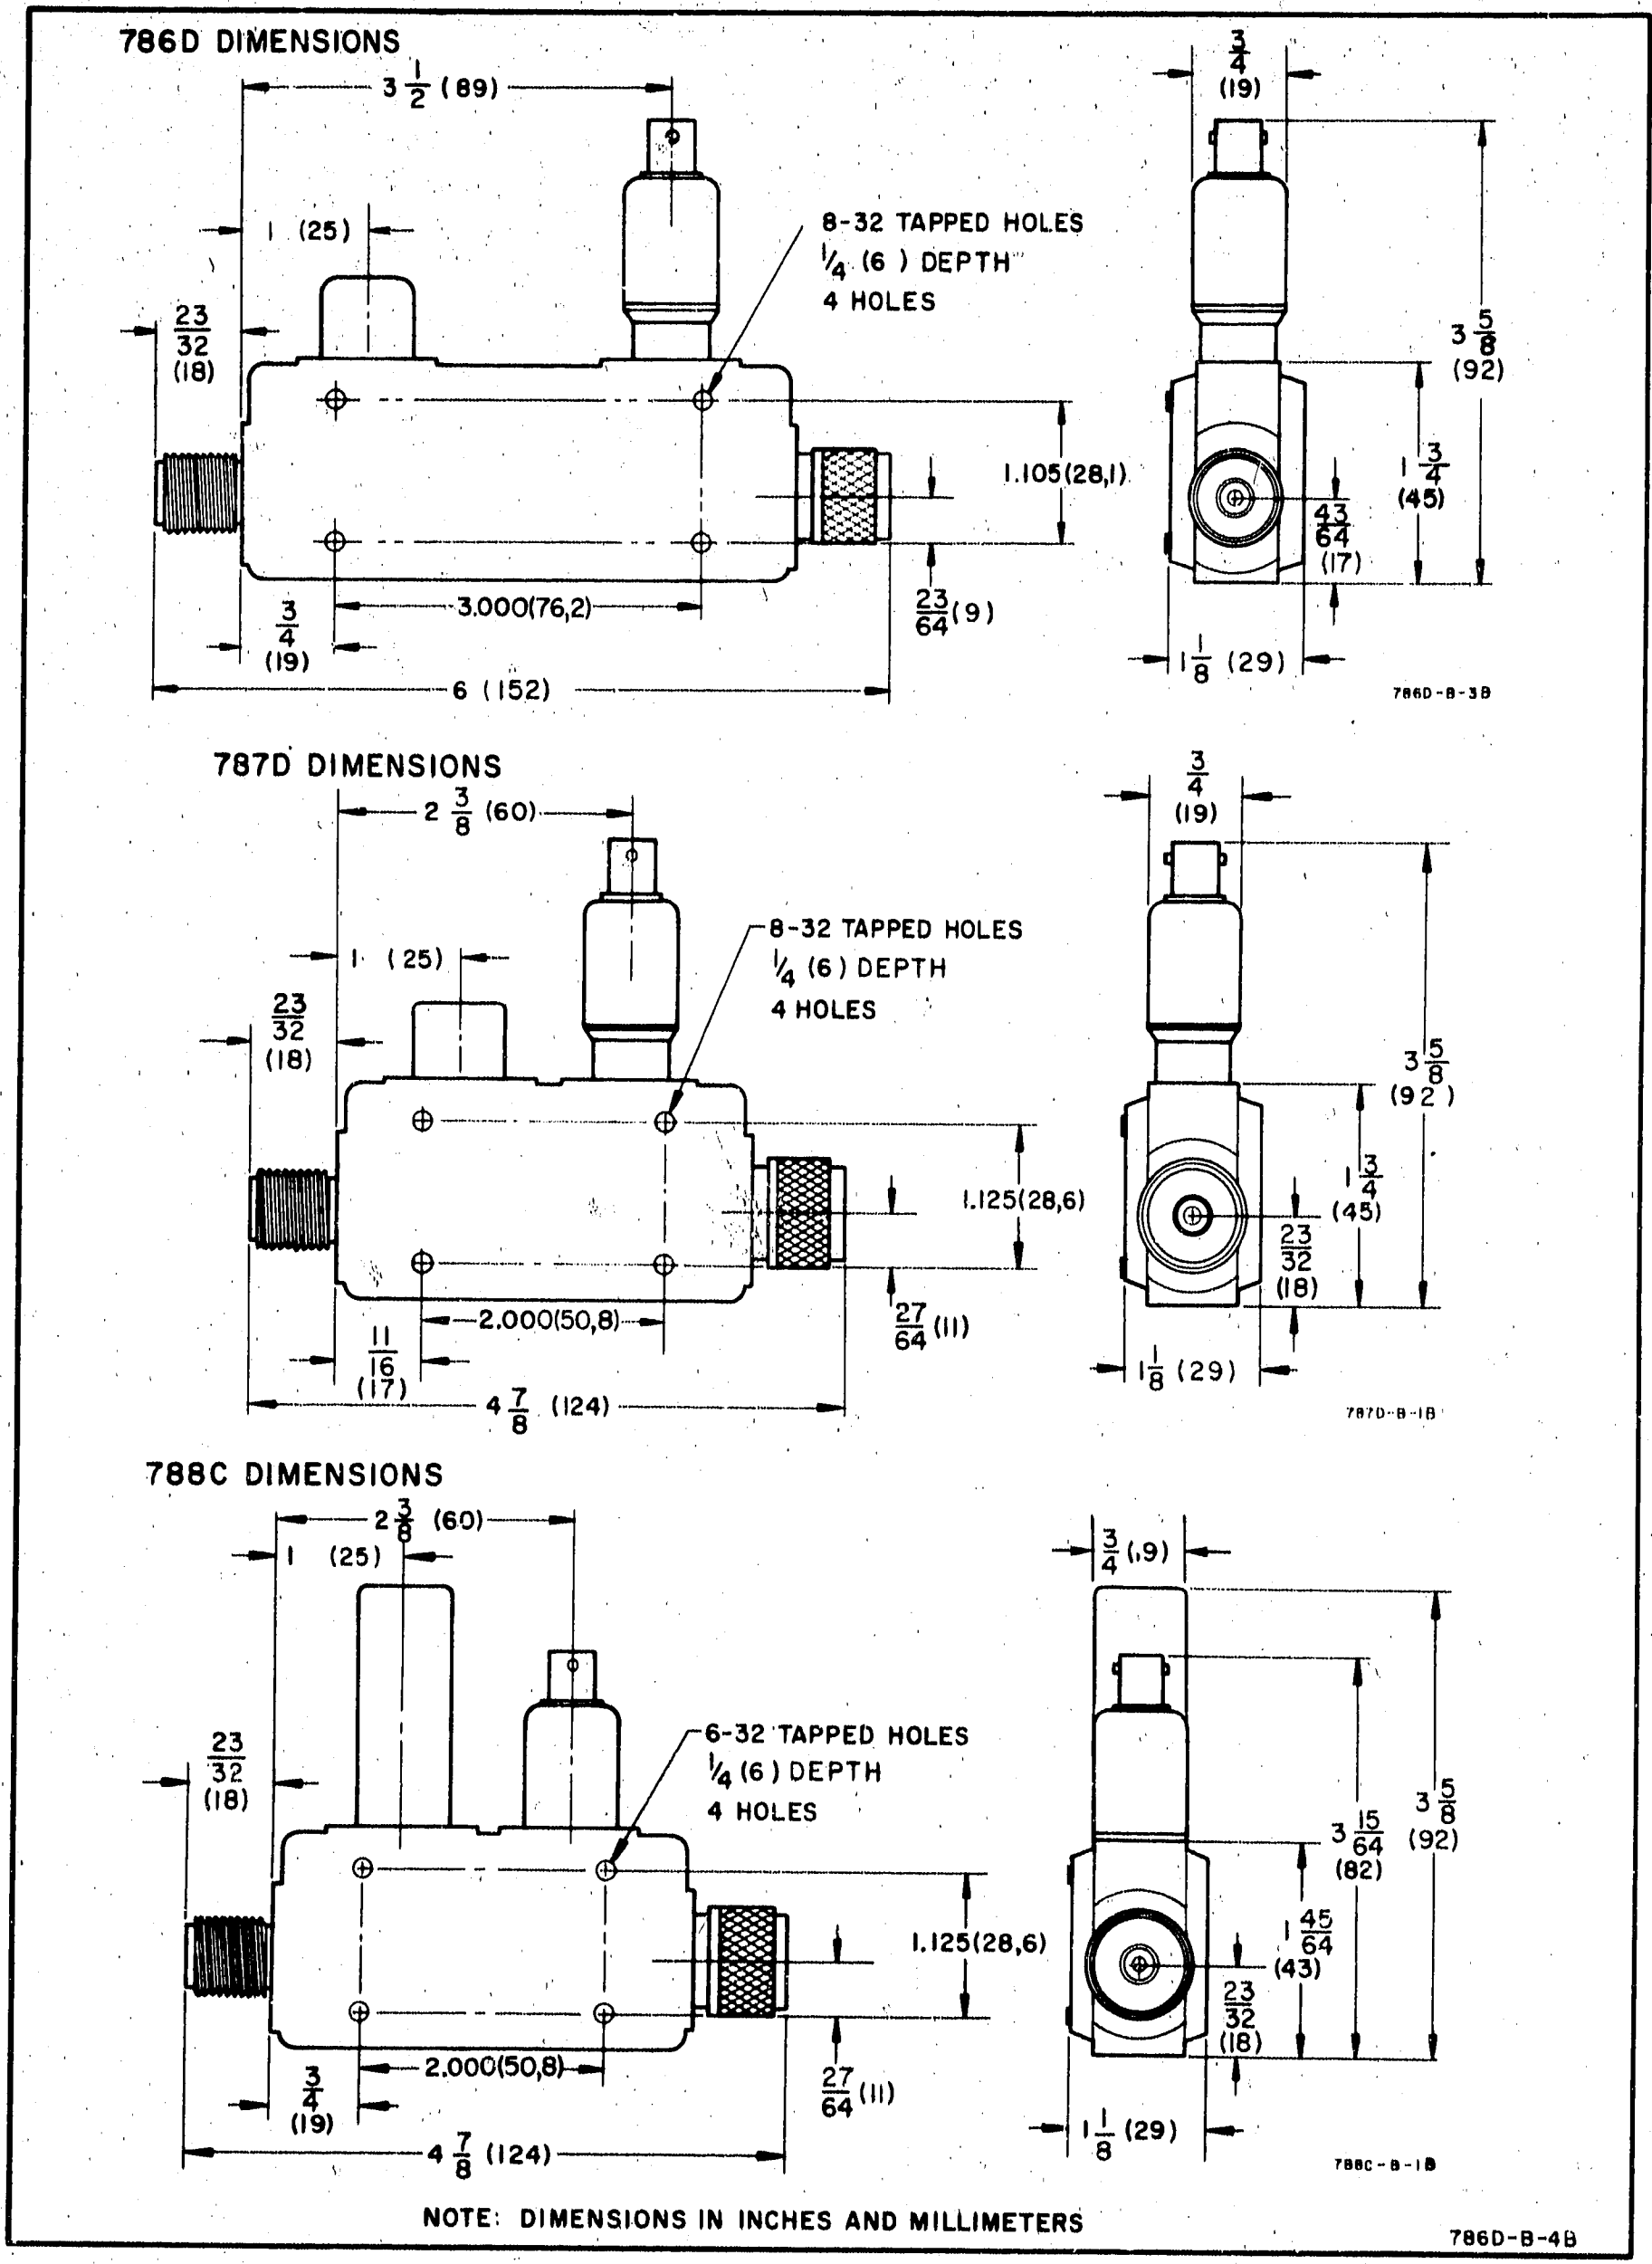

Figure 2. Outside Dimensions
<p>Noise: Less than 200 <math>\mu\text{v}</math> peak-to-peak with CW power applied to produce 100 mv output</p> <p>Detector Output Polarity: Negative</p> <p>Detector Output Connector: BNC female</p> <p>Detector Output Impedance: 15K max shunted by about 10 pf</p> <p>Detector Element: Supplied</p> <p>RF Connectors5: <math>\phi</math> precision type N, one male (input), one female</p> <p>Size: Refer to Figure 2</p>	<p>Net Weight:</p> <p>786D - 16 oz (450 g)</p> <p>787D - 12 oz (340 g)</p> <p>788C - 12 oz (340 g)</p> <p>Options:</p> <p>02. Furnished <math>\phi</math> 11523A load resistor for optimum square-law characteristics at 24°C (75°F), <math>\pm 0.5</math> db variation from square-law for outputs up to 50 mv peak (working into an external load <math>&gt; 75\text{K}</math>). Sensitivity when load is used is typically <math>&gt; 1 \mu\text{v}/\mu\text{w}</math> CW for 786D and 787D, and <math>&gt; 10 \mu\text{v}/\mu\text{w}</math> CW for 788C.</p> <p>03. Positive polarity detector output.</p>
10. The directional detector is useful as the sampling and detection device in closed-loop leveling setups as described in Paragraph 16. It can also be used as a calibrated power monitor by determining the correlation between detected output and main-line RF output levels, or for relative RF envelope observation with an oscilloscope. If the directional detector is to be permanently mounted for any application, refer to Figure 2, which illustrates the location of the four mounting holes and the general side dimensions. Before installing in any setup, the following should be considered: